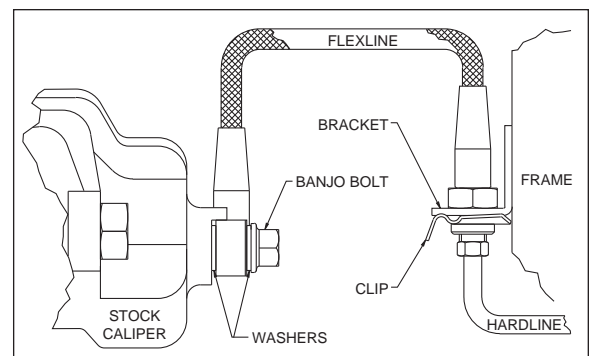

Figure 2. Brake Line Diagram
- Align the hole pattern on the rotor (1) with the stud pattern on the axle flange. Slide the rotor (1) over the wheel studs and against the axle flange face. Check to be sure the rotor seats squarely against the axle flange face. Use several lug nuts to hold the rotor in place against the axle flange.
- Install new Wilwood brake pads (2) into stock caliper bracket.
- Install Wilwood's stainless steel braided flexline hose kit (3), see figure 2. **NOTE:** OEM rubber brake hoses generally cannot be adapted to Wilwood calipers. The caliper inlet fitting is a 1/8-27 NPT. The preferred method is to use steel adapter fittings at the caliper, either straight, 45 or 90 degree and enough steel braided line to allow for full suspension travel and turning radius, lock to lock. **Carefully route lines to prevent contact with moving suspension, brake or wheel components.** Wilwood hose kits are designed for use in many different vehicle applications and it is the installer's responsibility to properly route and ensure adequate clearance and retention for brake hose components.
- Using new mounting hardware supplied in the kit (3), bolt flexline to back of stock caliper, see Figure 2. Torque banjo bolt to specifications included with the flexline kit (DS-573).